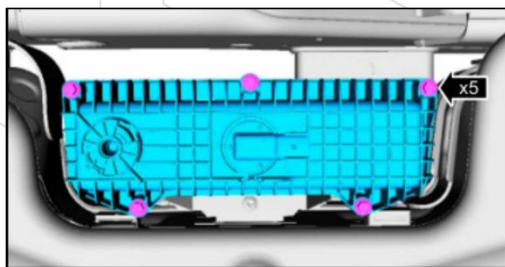
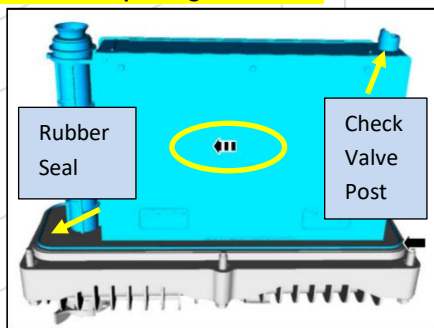

Figure 19: Loosen these 5 bolts to drop the cap
Figure 20: Slide filter sideways
1. Place a large catch container under the fuel conditioning module shown in Figure 19. To reduce the risk of siphoning, it is recommended to perform this procedure with less than half a tank of fuel (refer to Step 4).
4. Using an 8mm socket, remove the QTY: 5 bolts shown in Figure 19. They are retained so they will not come out completely when loose. Once you have dropped the cap enough to close the check valve (Figure 20) then you can use the drain valve to drain the cap.
- a. **IMPORTANT:** You cannot open the water drain valve at the bottom before performing Step 4 as the siphon effect could drain the whole fuel tank. There is a check valve in the top of the module that the panel filter (Figure 20) pushes against, so you must drop the cap and filter down to close the check valve.